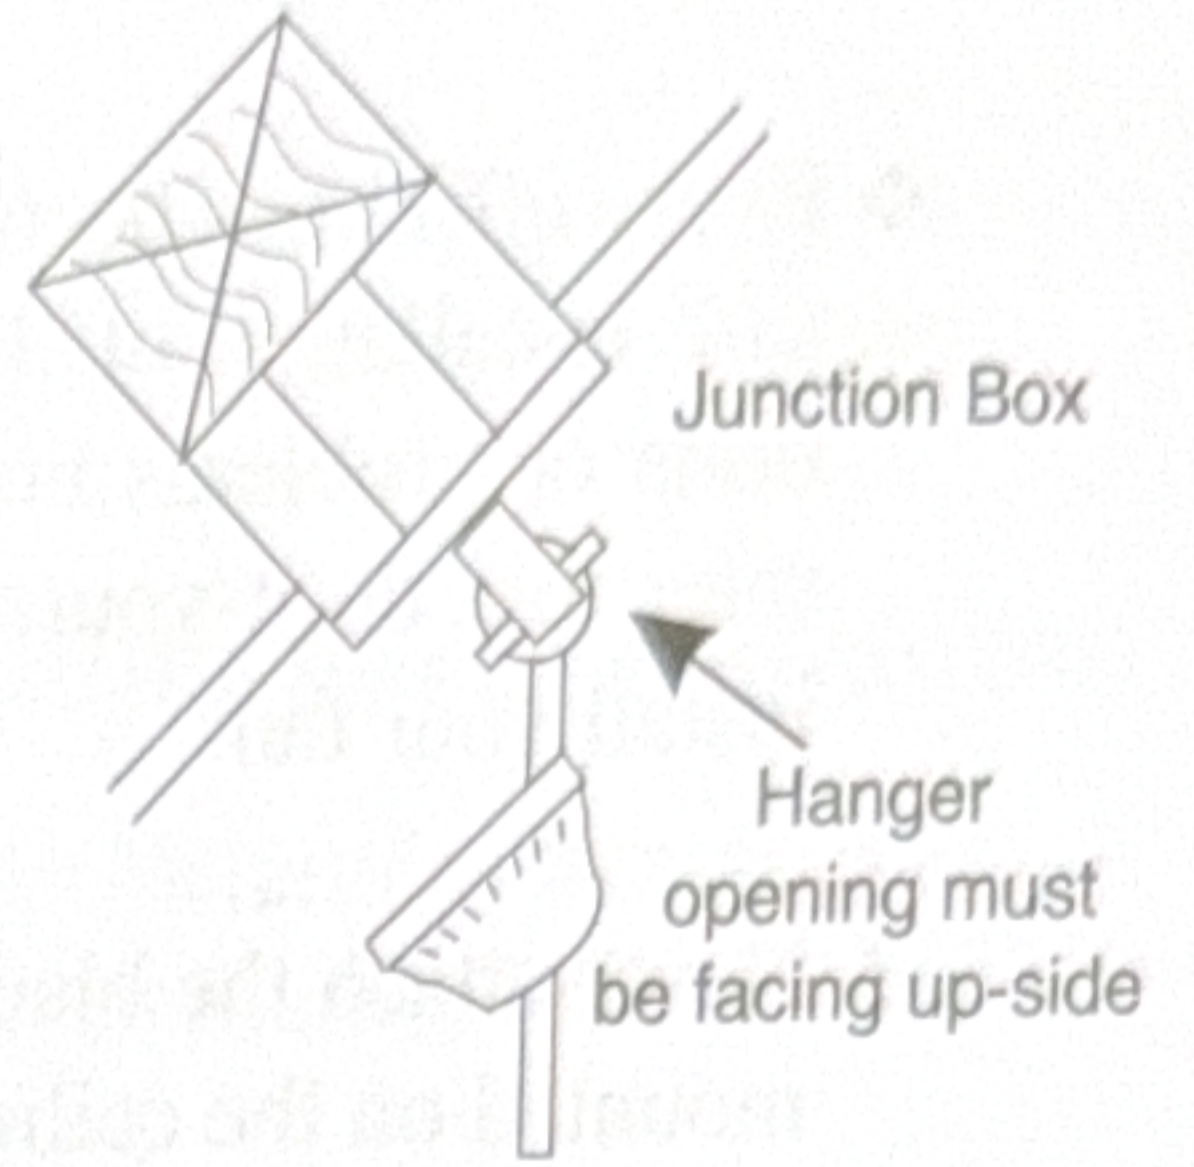

Fig. 1-2
**Note:** You may need a longer downrod to maintain proper blade clearance when installing on a steep, sloped ceiling. (see figure 1-2)